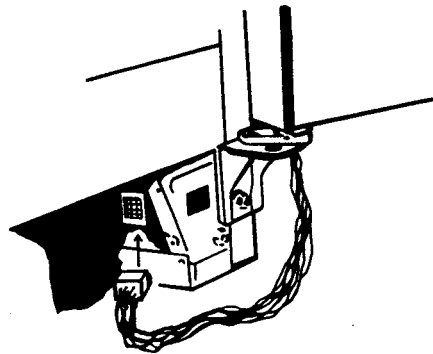

FIGURE 19
- 4. Disconnect at connector. Push lock tab on underside of connector up and then pull loose. See Figure 19.